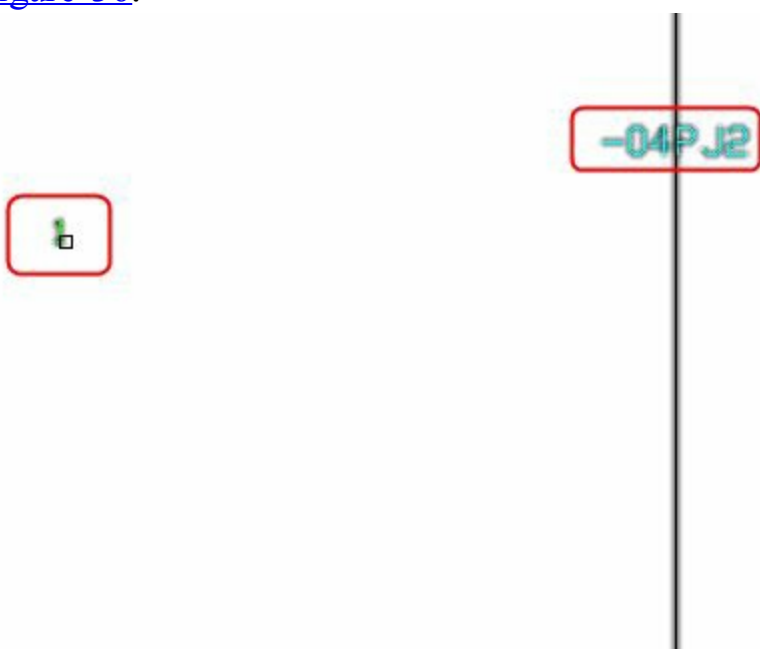

Figure-36. Numbers and tags in small font
- Click on the connector numbers and tags displayed in very small font to increase their size. Refer to Figure-36.